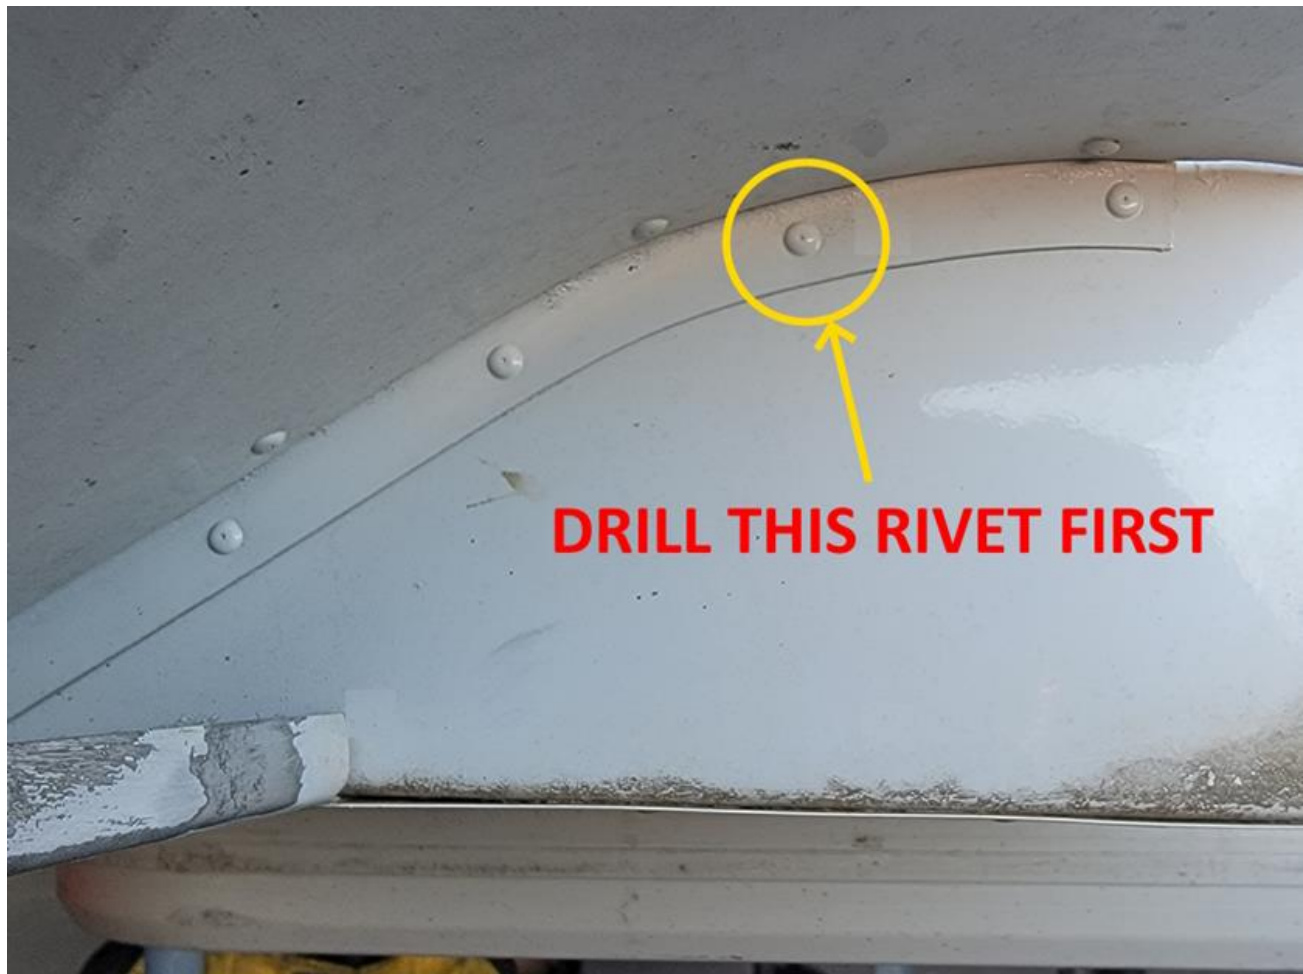

FIGURE 4-1 ROLL SERVO MOUNTING BRACKET RIB
- 4.1.2 On the right-hand wing W.S. 84.0, drill out the rivet pictured in Figure 4-1 using the appropriate drill bit for the existing rivet.